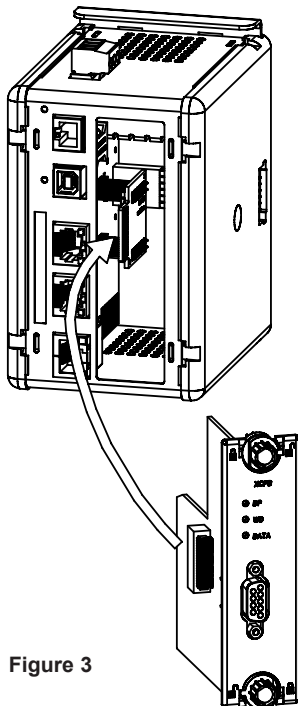

Figure 3
4. Carefully insert the option card into the expansion port opening while aligning the card-edge connector on the option card with the main board's header, as shown in Figure 3. Once aligned, gently press on the front of the card until it is flush with the front of the case.